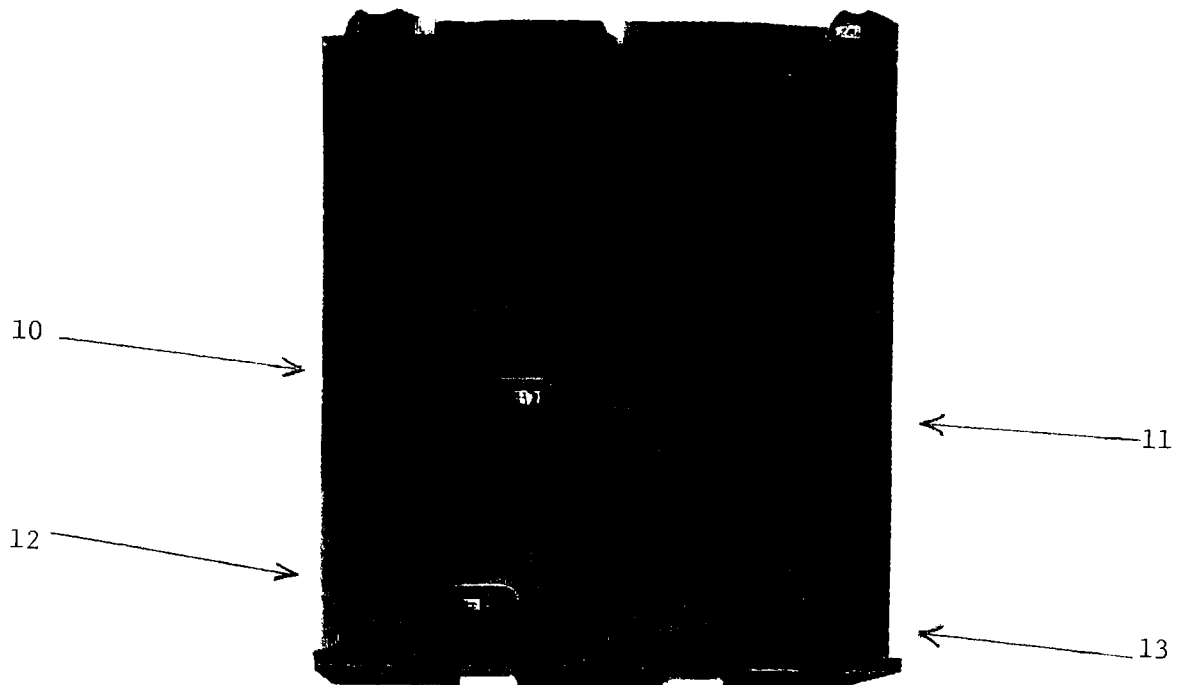

FIGURE 3.4 Top View of Model 817 and 818
1. Using small pliers, remove the jump jax (jumper) from the Set Point Disable pins (Key 12) through the access hole in the top of the unit. (Refer to Figure 3.4)
1. Make sure the Set Point Disable jumper (Key 12) is in place. (Refer to Figure 3.4)